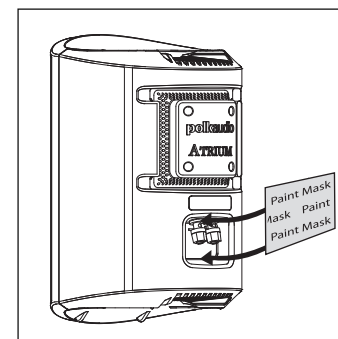
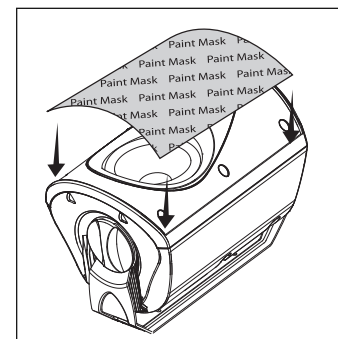

FIGURE 6: Mask the binding posts on the rear of the speaker.
FIGURE 7: Mask the drivers and baffles.
2. Mask off the binding posts on the back of the speaker [figure 6], the end panels and bracket knobs, and carefully mask off the front of the speakers to protect the drivers and baffles while painting [figure 7]. The grille has a logo on it, which you may mask off should you choose not to paint over it.